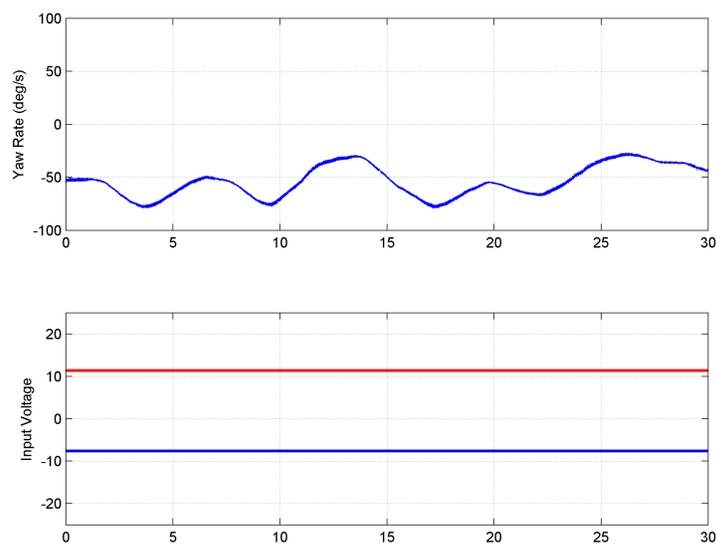

Figure 5.20: Identifying the viscous damping about the yaw axis
4. In the *Scopes* subsystem, double-click on the *theta (deg)*, *psi (deg)*, and *Vm_Actual (V)* sinks. In the *theta (deg)* scope, the desired pitch position is the yellow line, the measured pitch position is the purple plot, and the simulated pitch position is light blue trace. Similarly for the yaw *psi (deg)* scope. The *Vm_actual (V)* scope plots the voltage being applied to the pitch motor in yellow and yaw motor in purple.
5. To identify the viscous rotary friction parameter in the yaw axis a voltage step command must be applied to the yaw motor. In the *Desired Voltage* subsystem, set the *Signal Generator: Yaw (V)* block to 2.5.
6. Change the control switch to 4. The yaw input motor voltage is now the control voltage used to stabilize the yaw angle, $u_{lqr,y}^*$, added to the commanded open-loop voltage, i.e. $V_{m,p} = u_{lqr,y}^* + 2.5$. The plot should resemble Figure 5.20.